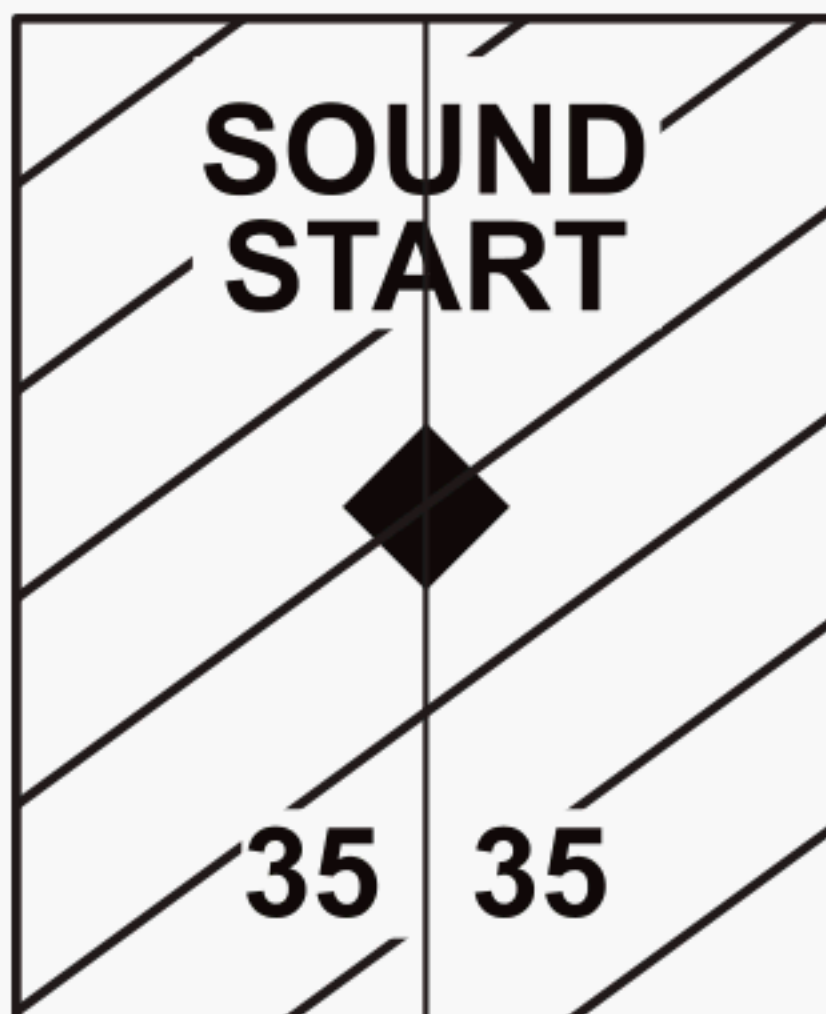

Figure 3 — 35 mm sound-start identification frame
- Frame 7 — The 35 mm sound indication; the numeral “35” printed lengthwise in clear letters on a black background on both sides of a clear horizontal line with a clear diamond at least 4,76 mm × 4,76 mm (3/16 in) in the centre of the frame (as shown in Figure 3). The line shall extend to the edges of the frame. This frame is repeated every 16 frames to frame 135. Frame 7 shall also contain the words
“SOUND START” printed lengthwise in clear letters 3,2 mm (1/8 in) high on a black background (see Figure 3).